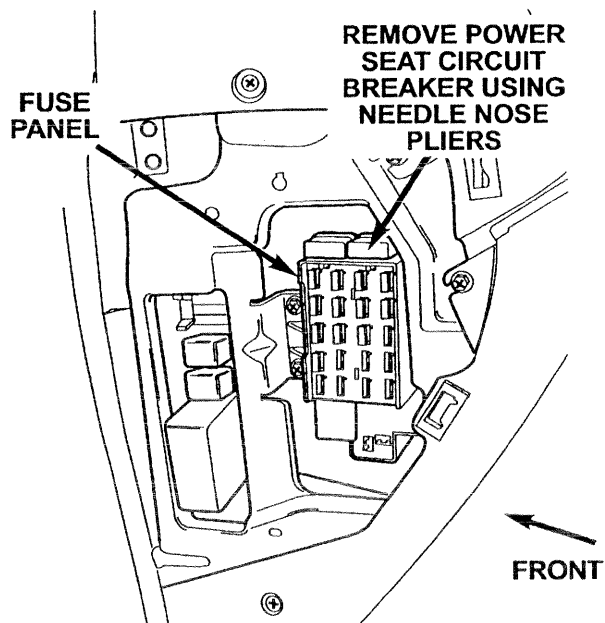

Figure 1
3. Using a pair of needle nose pliers, remove the power seat circuit breaker from the fuse panel (Figure 1). Discard the circuit breaker.